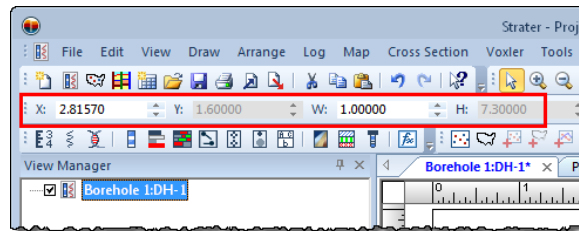

Figure 1.176 – Highlight the existing value in the X box and type the new location.
1. Click on the line/symbol log in the **Object Manager** or log pane, fig. 1.176.